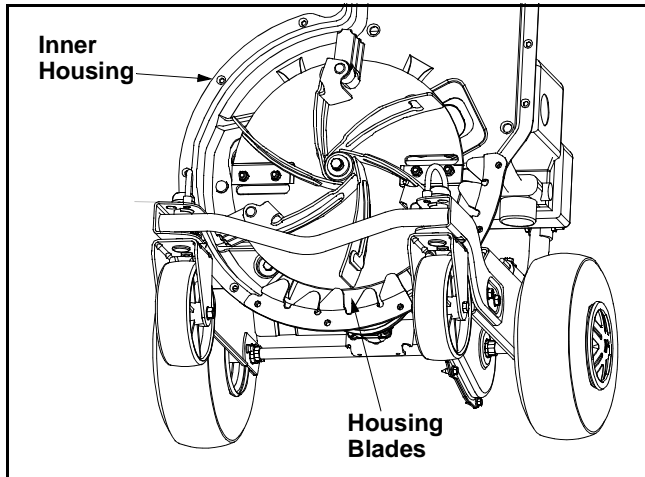

Figure 16
- Place the housing blades against the inner housing. See Figure 16.